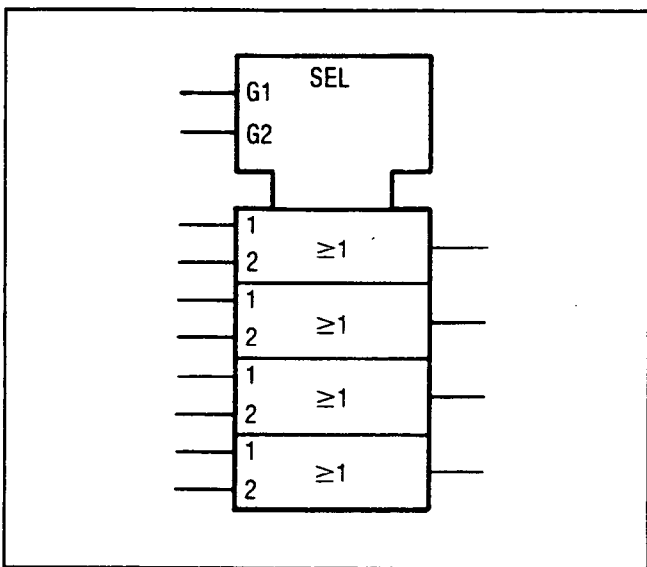

Figure 8-16. AND-OR Selector
**AND-OR Selector.** The selector control block simplifies the AND portion of a quad AND-OR select gate (see Figure 8-16). When G1 is high, the data presented at the "1" inputs is gated through. When G2 is high, the data presented at the "2" inputs is gated through.